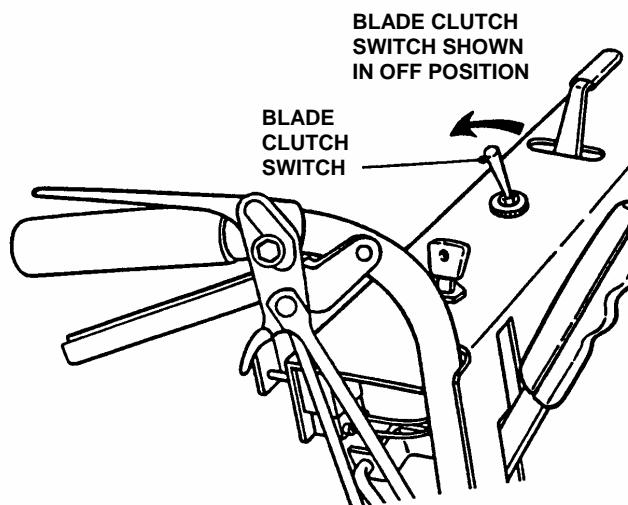

FIGURE 3.7
14. Pull the Blade Clutch Switch rearward to the OFF position. See Figure 3.7.